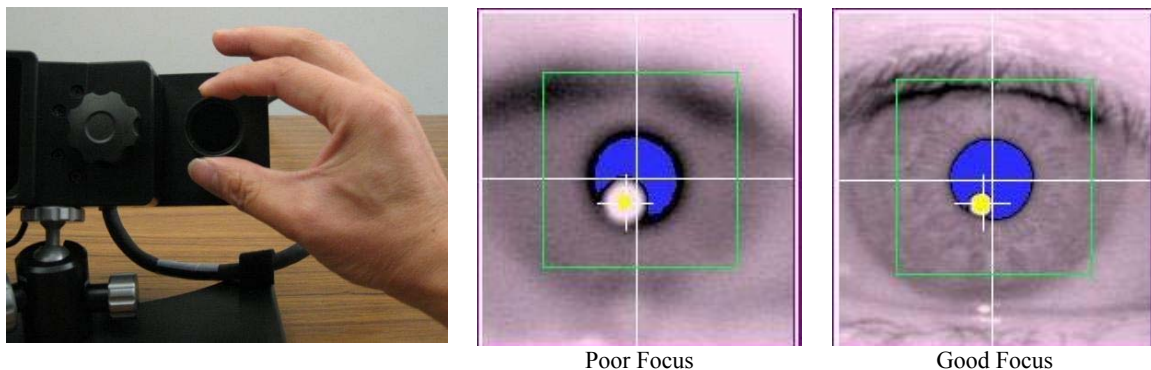

Figure 3-7: Focusing the Desktop Mount Camera
- 3) Use the left or right cursor key to select the zoomed camera view. Adjust the camera focusing by turning the focusing ring on the lens. Performing the adjustments from the side of the mount with the lens will prevent the illumination or the camera's view from being blocked. Look closely at the eye image on the zoomed view while turning the focusing ring until the eye image is clear. If a turquoise circle (CR signal) appears near the pupil, the best focus will minimize the size of this turquoise circle (see Figure 3-7).